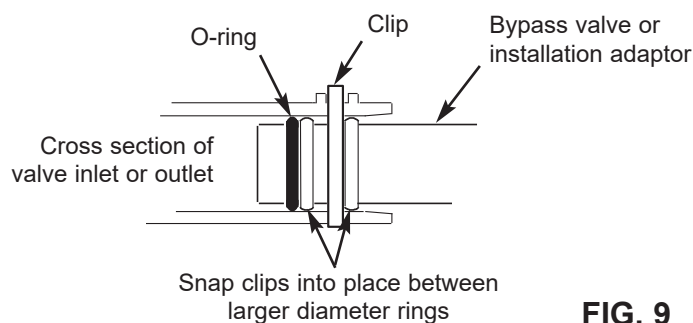

FIG. 9
- Snap the two large plastic clips in place on the inlet and outlet ports, from the top, down (See Figure 9). Be sure they snap into place. Pull on the bypass valve or installation adaptors, to make sure they are held securely in place.